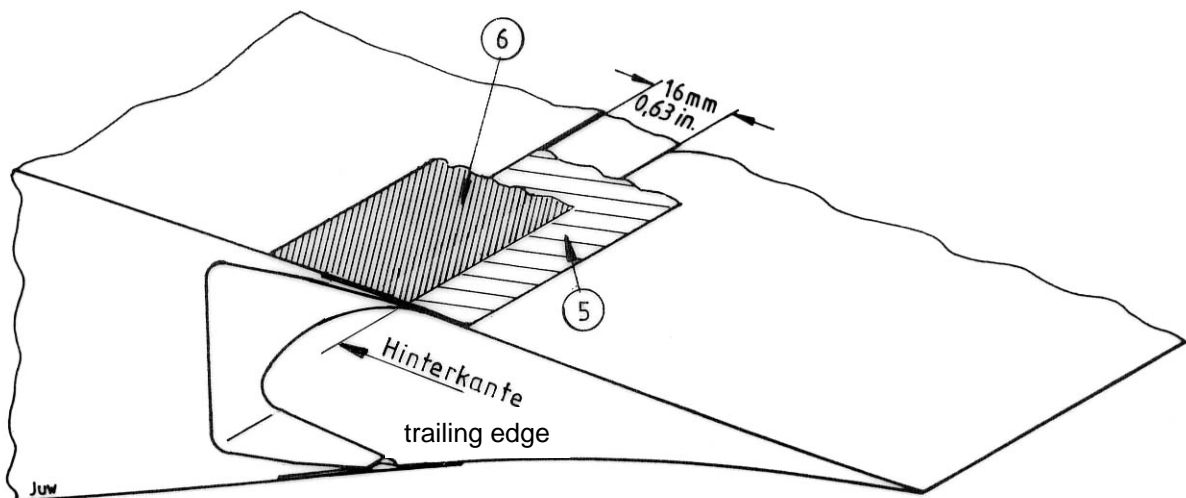

FIG. 4 Upper Wing Surface
5.3 After cleaning the surface of this step [see relevant Note under Para. 3.] remove protective backing from plastic fairing strip (5) and stick the strip over the whole span of the aileron or flap flush into the rebated step by means of its adhesive film layer (Fig. 4). For sticking the fairing tape in position, keep it under spanwise tension of about 10 kp (20 lb).
5.4 Tape the protective adhesive tape (6) [Tesa film No. 104, white, 25 mm wide] over the abutment of the front edge of the plastic fairing strip (5) and the step in the wing (Fig. 4).